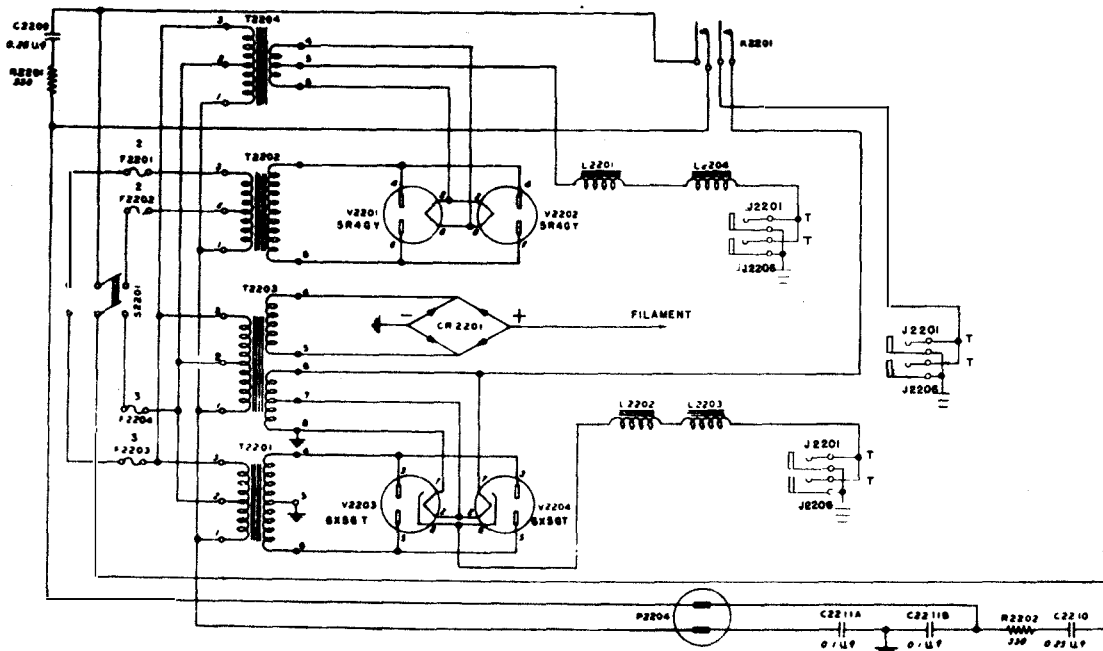

Fig. 2-32 Type -20309 Rectifier Power Supply—Schematic Diagram
b. The Type -20309 Power Unit (figures 2-32, 2-33, 2-34, 2-35) is designed for operation from either a 115-volt or a 230-volt 60 cycle A-C power source. Dual input voltage operation is accomplished by means of tapped transformer primaries. A toggle switch, S2201, is employed to select the proper primary taps for the line voltage used.